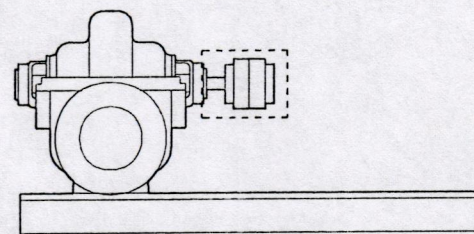

Fig. 2 KP bare shaft pump with base, coupling, and guard
- Bare shaft pump, i.e. pump without motor, with base (see fig. 2).